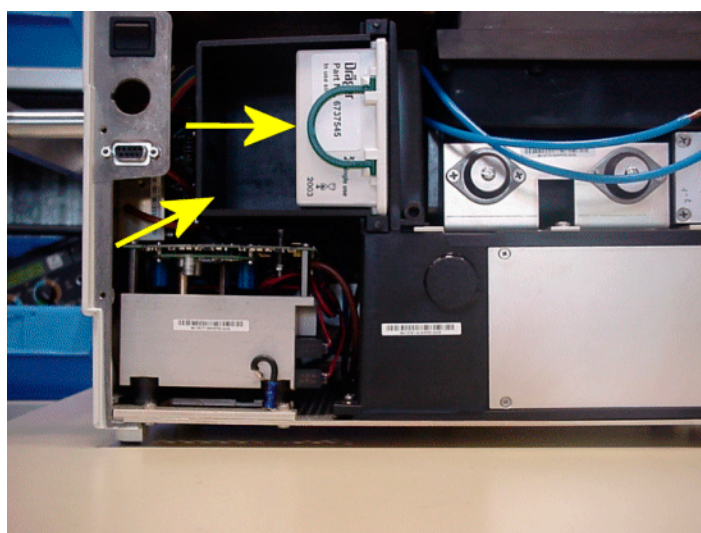

Figure 10 Removing the microfilter
8. Remove the microfilter (Figure 10).
9. Remove the plug-in unit (Figure 10).